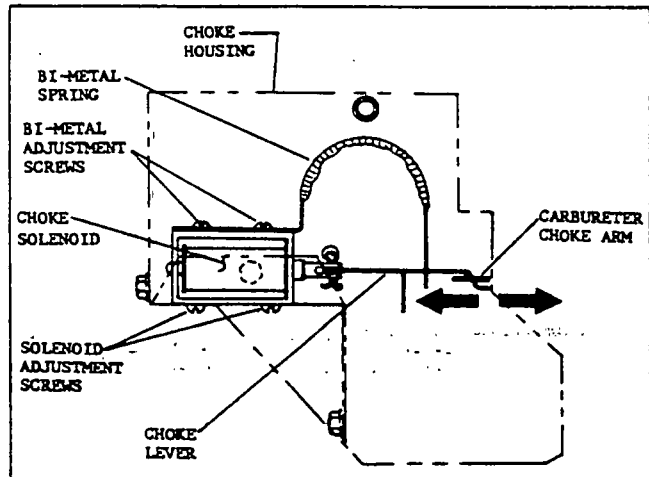

Figure 14
C.) The solenoid coil may be out too far rendering itself too weak to pull in the choke lever. By loosening the screws, as shown in figure 14, the choke solenoid can be moved in closer, making it more effective.